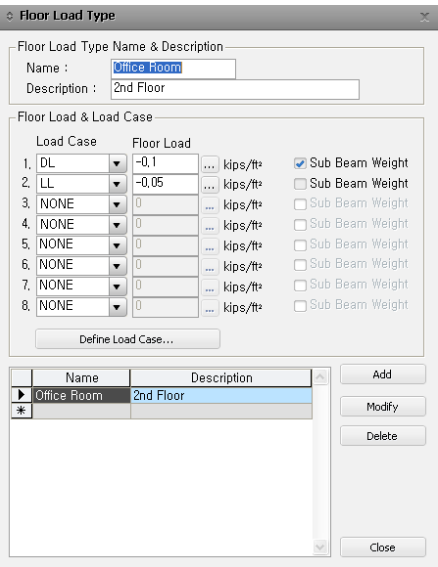

Figure 1.15 Definition of Floor Load Type
3. Enter “**Office Room**” in the **Name** field (Fig.1.15).